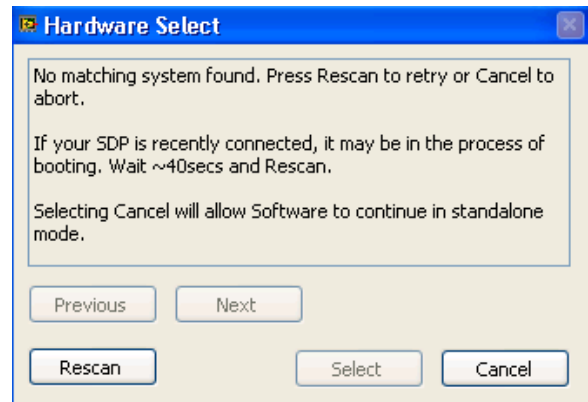

Figure 14. SDP Board Not Connected to the USB Port Pop-Up Window Error
2. If the SDP board is not connected to the USB port when the software is launched, a connectivity error displays (see Figure 14). Connect the evaluation board to the USB port of the PC, wait a few seconds, click **Rescan**, and follow the instructions.